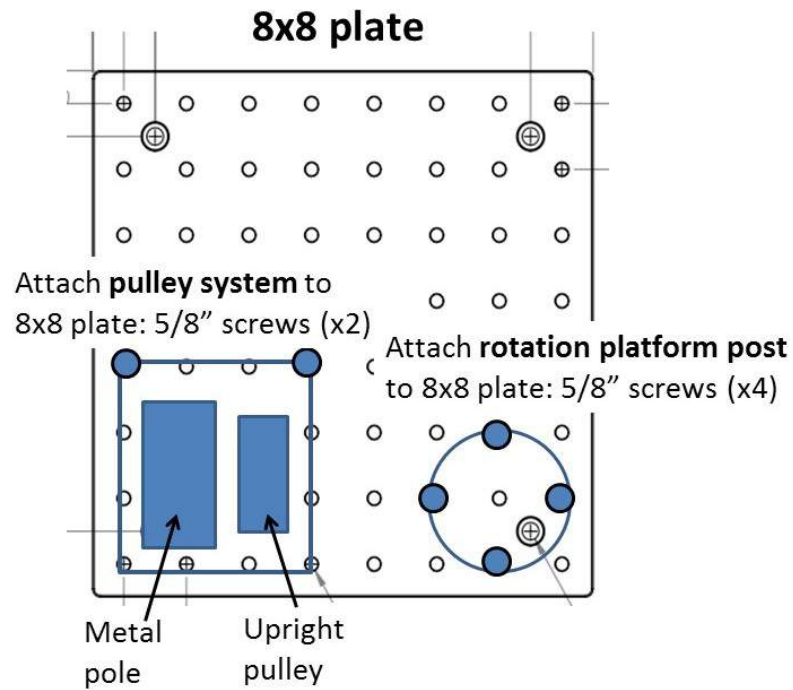

Figure 55: Where to attach the pulley system and rotation platform post to the 8x8 plate
3. Attach the 4.5x4.5" plate that forms the base of the pulley system (group assembled in section 8.9) to the 8x8" plate using 5/8" screws (x2) threaded through the counterbores of the plate (refer to Figure 55 and 56 for placement).
1. Fasten the base of rotation platform post (group assembled in section 8.2) to the 8x8" plate with 5/8" screws (x4) (refer to Figure 55). Tighten the screws using a locking key.